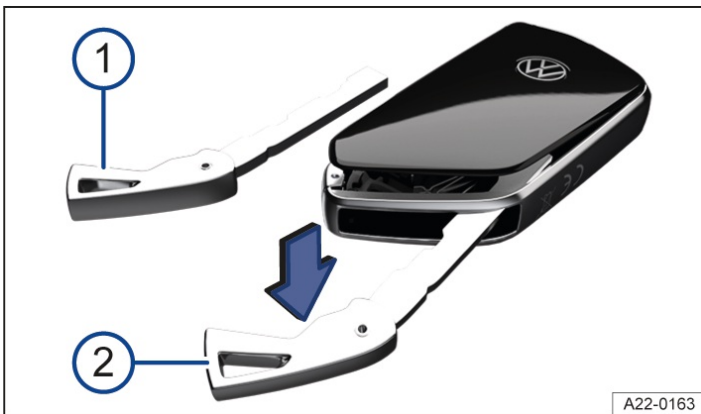

Fig. 1 Vehicle key: opening battery compartment cover.
1. Remove the manual key → Fig. 1 ① (→ Vehicle key).
2. Insert the manual key in the slot, press in the direction of the arrow and lever off the cover → Fig. 1 ②.